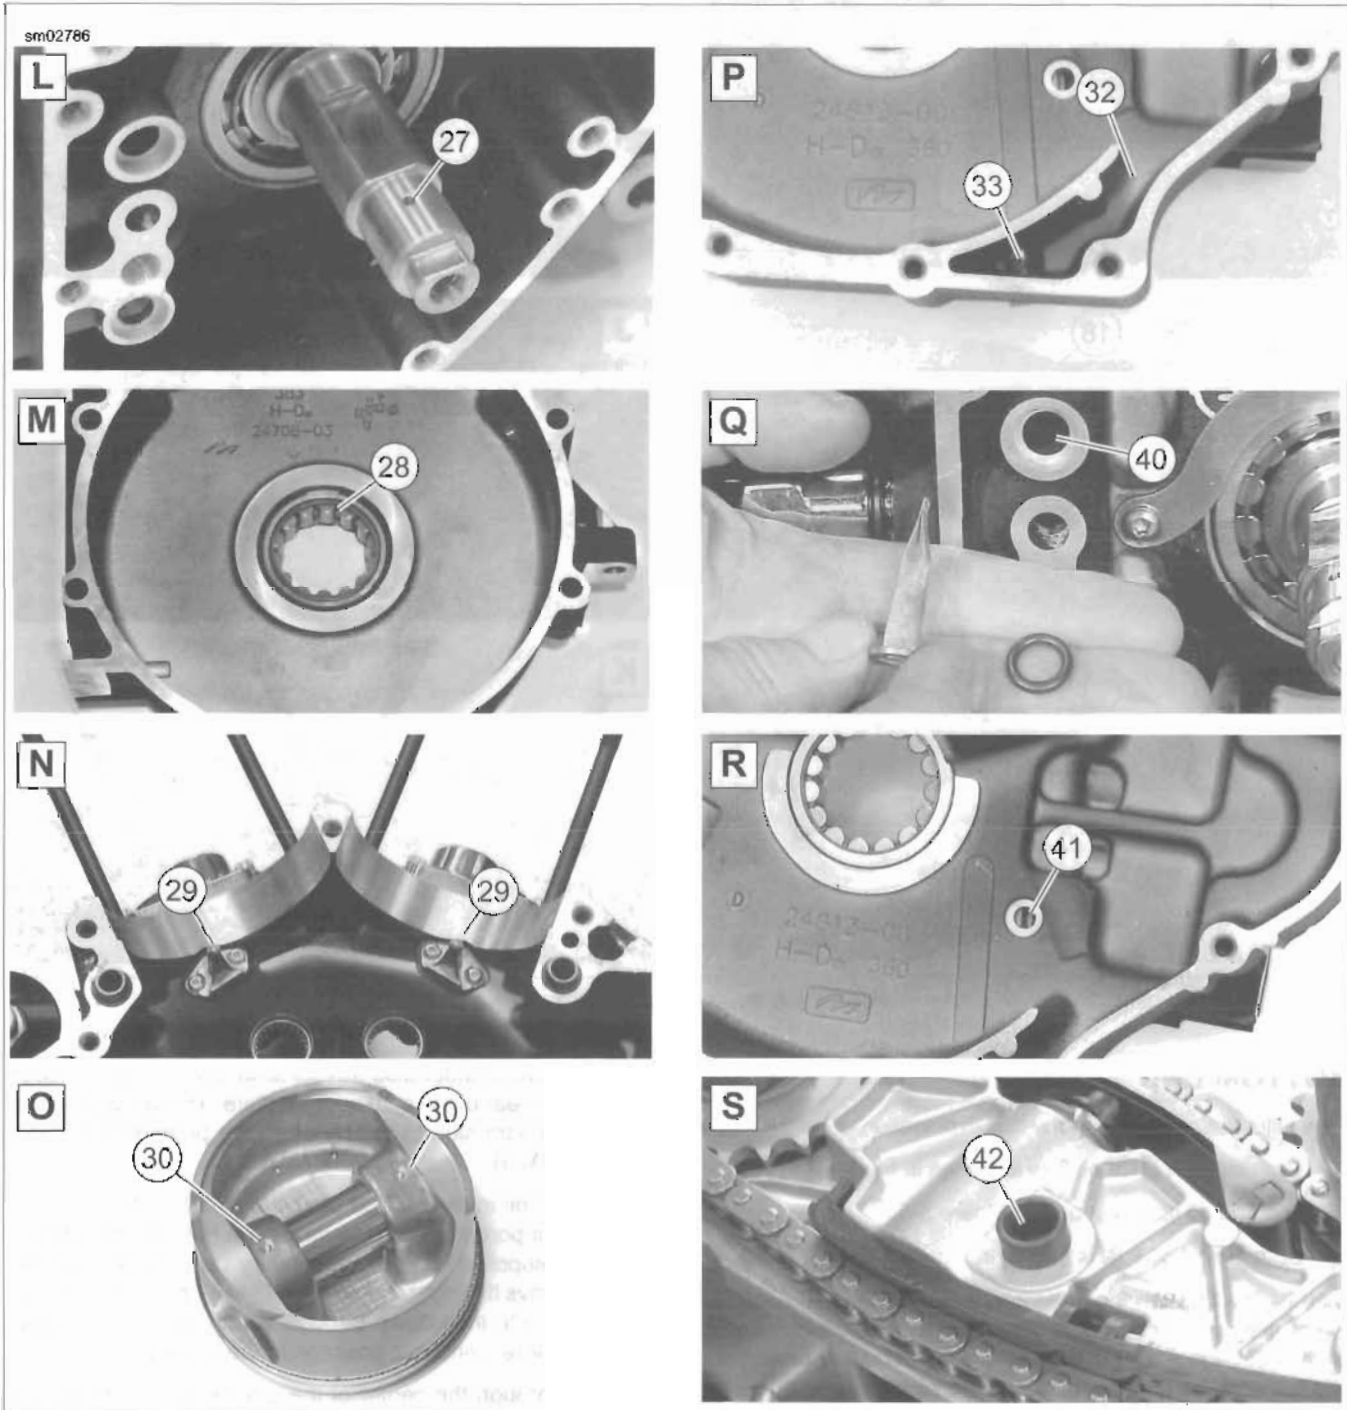

Figure 3-6. Engine Oil Flow: Bottom End
- Bottom end oil flow is shown in Figure 3-6.